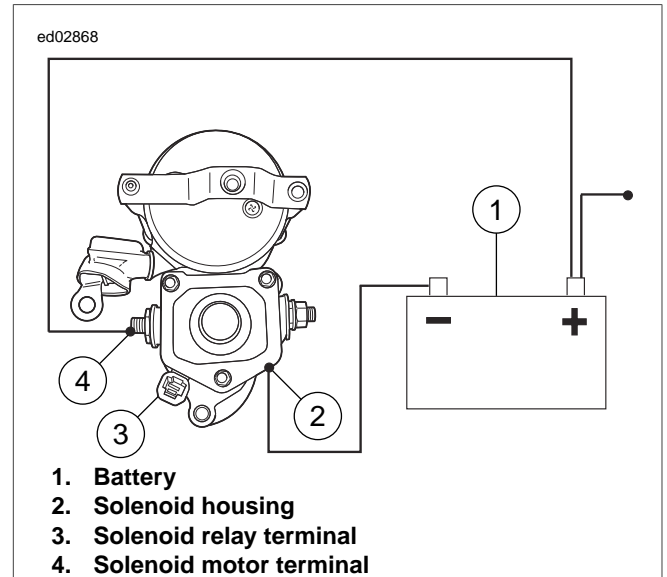

Figure 3-8. Return Test
1. See Figure 3-8. With test leads still connected in the manner specified at the end of 3.4 TESTING STARTER